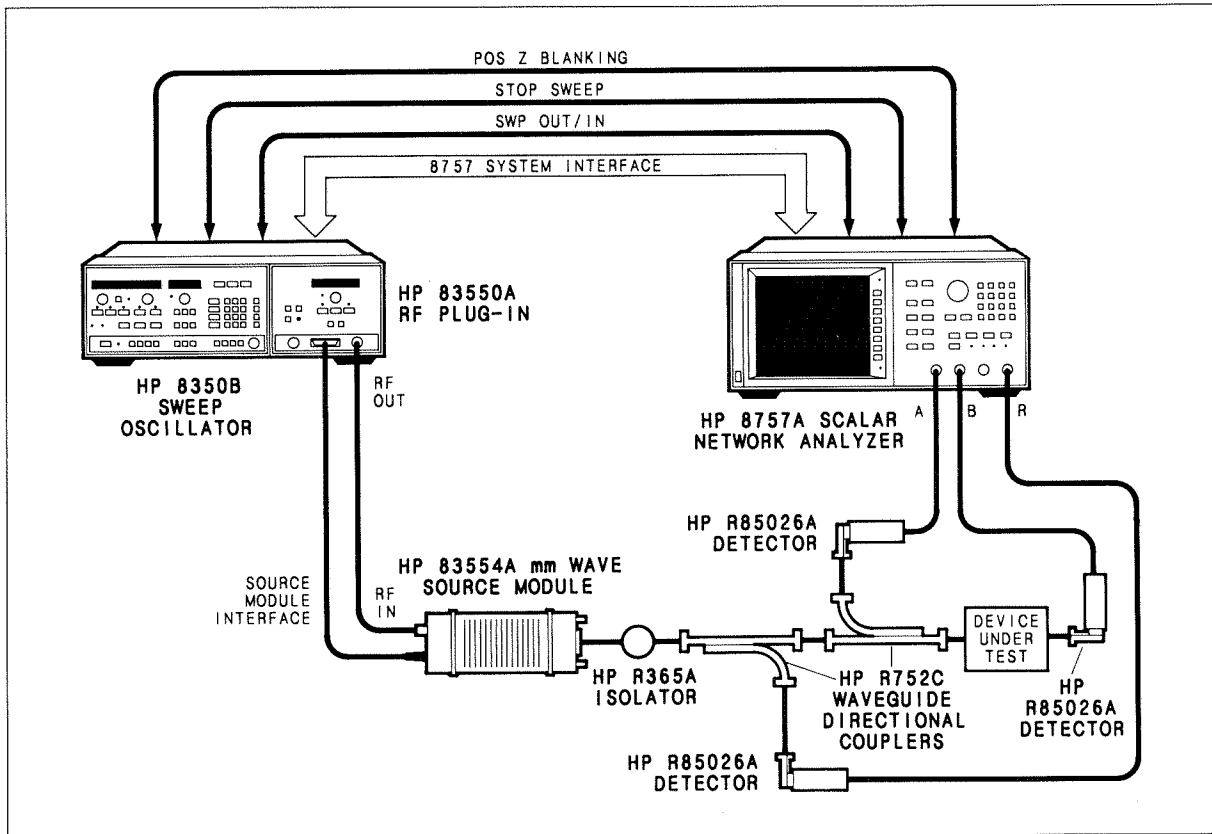

Figure 2-2. HP R85026A/8757A Typical Measurement Configuration
For the majority of measurements, AC detection is the preferred method. It offers greater sensitivity and immunity to noise and drift with time and temperature. AC detection amplitude measurements require a modulated test signal. Modulation is provided via an internally modulated source (e.g. the HP 8350B), or from the HP 8757A rear panel modulator drive. Test set connections depend on the source; Figure 2-2 illustrates a typical measurement.
1. Connect the equipment as shown in Figure 2-2.